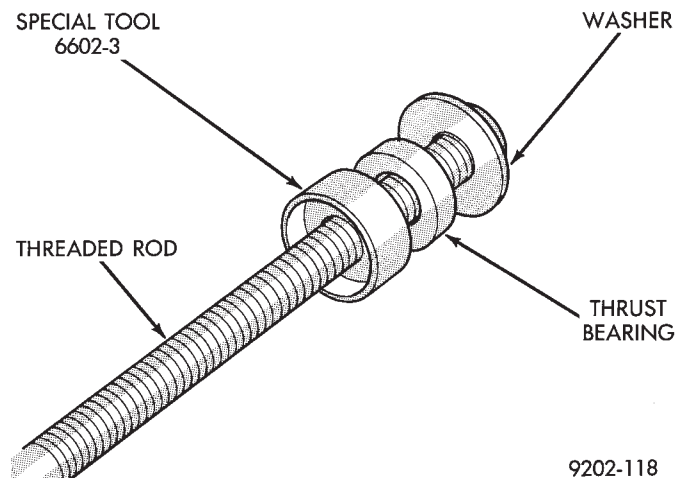

Fig. 5 Bushing Removal Tools
(1) Remove the special tools from the lower control arm that were used for the removal of the large pivot bushing.
(2) Remove the large Bushing Disc, Special Tool 6602-5 from the threaded rod. Leave the thrust bearing and washer on the threaded rod. Install the small Bushing Disc, Special Tool 6602-3 on the threaded rod and against thrust bearing (Fig. 5).